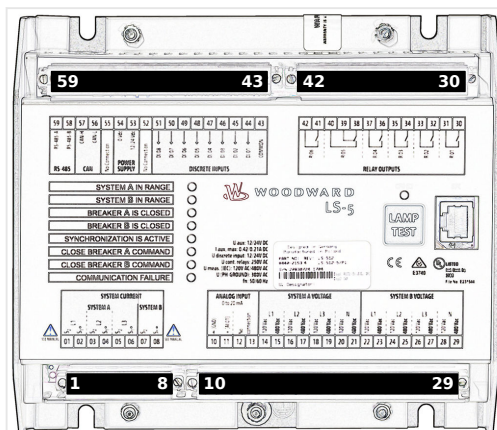

Fig. 19: Sheet metal housing
- Sheet metal housing - shown in ↪ Fig. 19